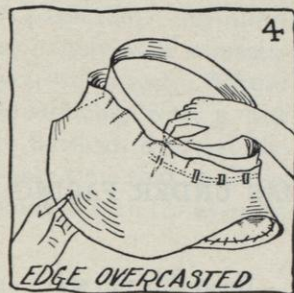

FIG. 4.
- d.* Stretch the bias strip from the pinned end, and pin and stretch it about every 3 inches, as shown in Figure 4 of Job 16 (page 68).
- a. Gently and evenly, stretch all of the fullness out at the headsize just where it falls and pin (see Figure 4). Do not try to pull all of the fullness out in one place. Be careful not to get your brim out of shape by drawing the bias too tight.
- (4) Sew wire in place.
- (a) Bring threaded needle from wrong side through the facing directly under the wire (see Figure 4 A). The stitch consists of three parts:
- (b) Take a stitch $\frac{1}{4}$ inch forward in the groove, and through the material that is rolled over the wire (see Figure 4 B).
- (c) At that point take a tiny slip stitch through the top facing directly on the edge and catch the frame if possible (see Figure 4 C).
- (d) Slant the needle and come out in the groove directly under the wire, about $\frac{1}{8}$ inch away from the first stitch described in Section 4 (b) (see Figure 4 D).
- (e) The next stitch is the same as the one described in Section (b) (also see Figure 4 B and E).
- (h) Continue pinning and stitching as shown in Sections (3) and (4) (b), (c), (d), (e), and (f), until you are within 3 inches of the starting point (see Figure 4 E).
- (5) Put in clasp.
- (b) Cut through both of them at once with the nippers so that the ends will just meet. Be sure to look back at Figure 4 of Job 23 (page 94).